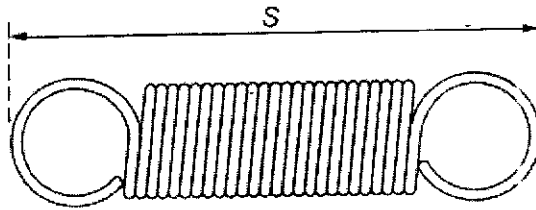

Fig. 3.1
- The length of an unstretched spring is S , as shown in Fig. 3.1.